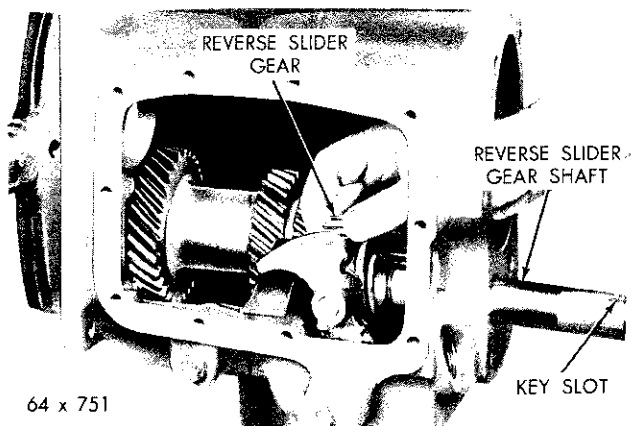
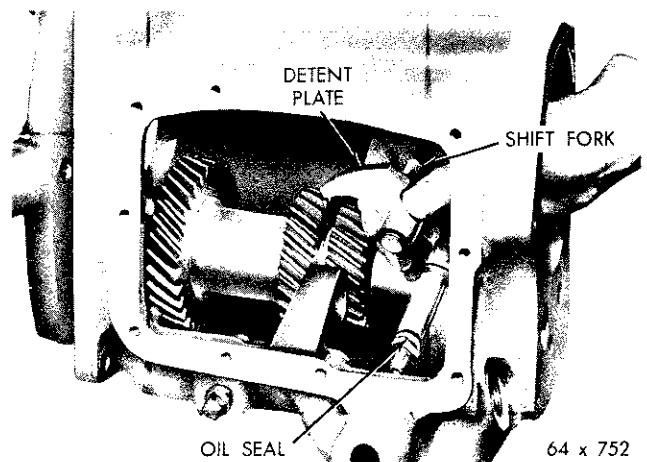

Fig. 42—Removing or Installing Reverse Slider Gear
Fig. 43—Removing or Installing Reverse Shift Fork and Lever
gear shaft (from front to rear) far enough out of the case to remove the reverse slider gear, (Fig. 42).
(3) Remove any burrs from the shaft so as not to damage the case bore, then carefully push the reverse gearshift lever shaft inward and remove it from the case (Fig. 43). Lift out the detent ball from the bottom of the case. Remove the shift fork from the shaft and detent plate.
(1) Install a new oil seal on the reverse gearshift lever shaft. Coat the lever shaft with multi-purpose grease, then carefully install the lever shaft into bore in the case, (Fig. 43). Install the reverse fork in the lever. Fill the recess next to the shaft with multi-purpose grease, then install the operating lever, (Fig. 29). Install a flatwasher, lockwasher and nut. Tighten nut securely.
(2) Install the reverse shift detent ball and spring. Install the reverse detent ball spring retainer gasket and retainer. Tighten securely.
(3) Position the reverse slider gearshaft in position in the end of the case, and drive in far enough to position the reverse slider gear on the protruding end of the shaft with the shift slot toward the rear, (Fig. 42). At the same time, engage the slot with the reverse shift fork.
(4) With the reverse slider gear correctly positioned, drive the reverse gear into the case far enough to be able to install the woodruff key. Drive the shaft into position, flush with the end of the case (Fig. 42).
(5) Install the back-up light switch and gasket (if so equipped), and tighten securely.